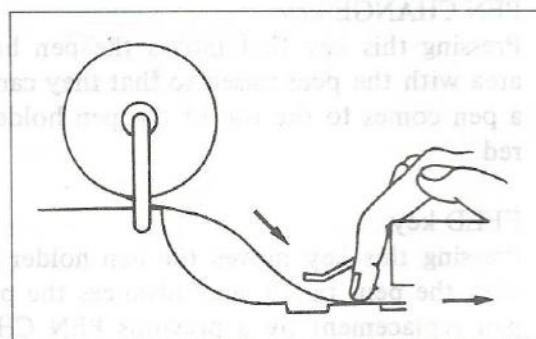

Fig. 3
- (4) Press the FEED key which lightly pushing the paper toward the front. (Figure 3)